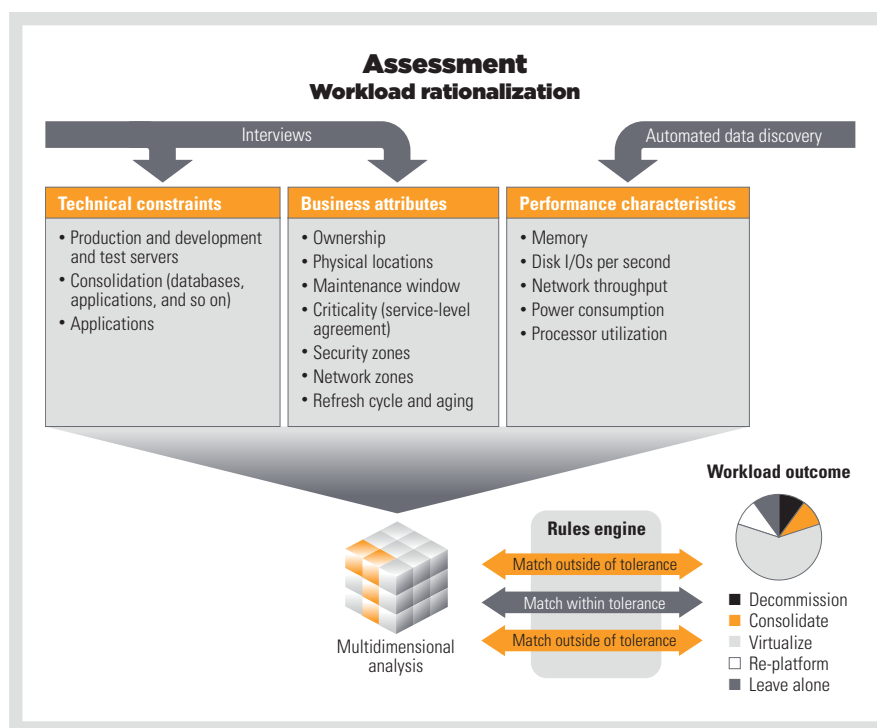

Figure 3. Example virtualization assessment process used by Dell Global Infrastructure Consulting Services
- **Assessments:** Assessments are designed to help organizations make informed decisions to help maximize the advantages of virtualization in specific environments. The assessment enables Dell to identify the scope of relevant solutions and make deployment recommendations. Using automated processes, Dell gathers up-to-the-minute information about the server environment, including key data on system inventory and up to one business cycle of performance data. Dell can then analyze the data, assess the situation, and outline options available in the existing infrastructure (see Figure 3).